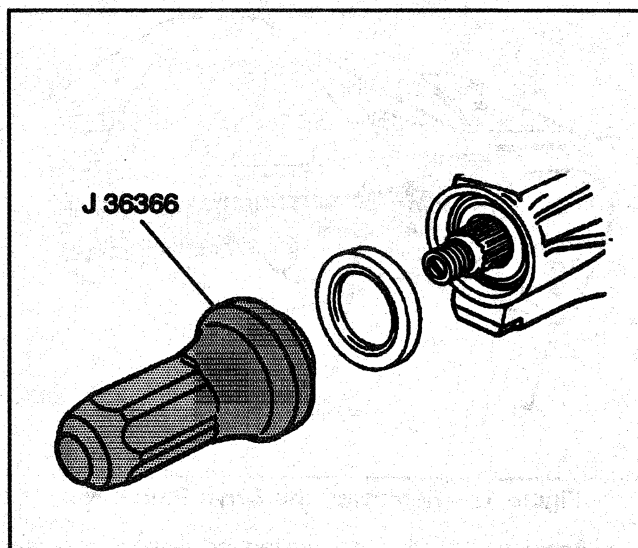

Figure 19—Installing the Pinion Seal
1. Oil seal into the bore using J 22804-1 and either J 22388 (9 1/2 inch ring gear) or J 22836 (8 1/2 and 8 5/8 ring gears). Turn J 22804-1 from installed position 180 degrees to ensure proper installation against the pinion flange (Figure 19).